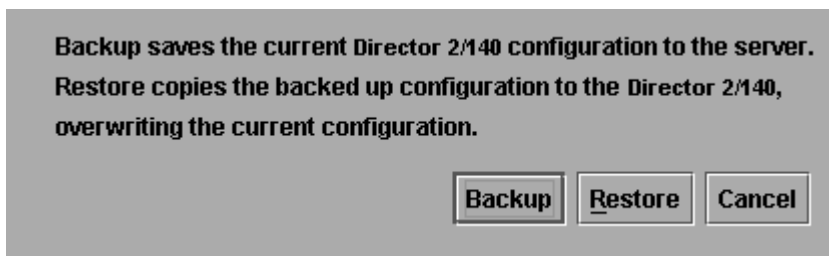

Figure 4-5: Backup and Restore Configuration dialog box
- c. Choose **Maintenance > Backup & Restore Configuration**. The **Backup and Restore Configuration** dialog box displays, as shown in Figure 4-5.